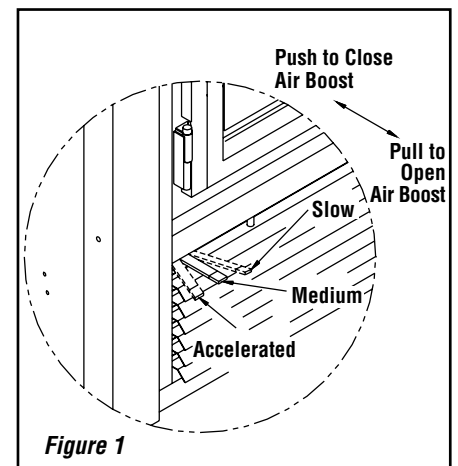

Figure 1
This is the recommended mode of operating the Brentwood fireplace and should be the one normally used since it will deposit the least amount of creosote on the glass and in the chimney. The combustion air control must be 3/4 closed and pushed in to close the air boost (**Figure 1**). The precise setting will depend on many factors, including chimney length and the moisture content of the wood.
Creosote may accumulate on the glass door. This method of burning should be used only after operating the Brentwood fireplace with the air control opened (**Figure 1**) to produce a hot fire for about an hour or at medium pace for at least three (3) hours. Slow combustion can be used at night in order to reduce the heat output and to prolong the burn. The loading time will be between 6-8 hours.
The Brentwood fireplace will operate best if attention is given to operating the unit with the damper fully opened (**Figure 1**) after refueling in order to bring the firebox and the chimney system up to their optimum operating temperature. Combustion efficiency is relative to firebox temperature. A temperature of 500° C (932° F) and up, with a visible flame, in the upper part of the firebox indicates a maximum efficiency. To obtain this temperature, the fireplace must be operated with the primary air and air boost controls fully opened during 10 to 20 minutes after reloading, depending on the heat and on the moisture content of the wood.